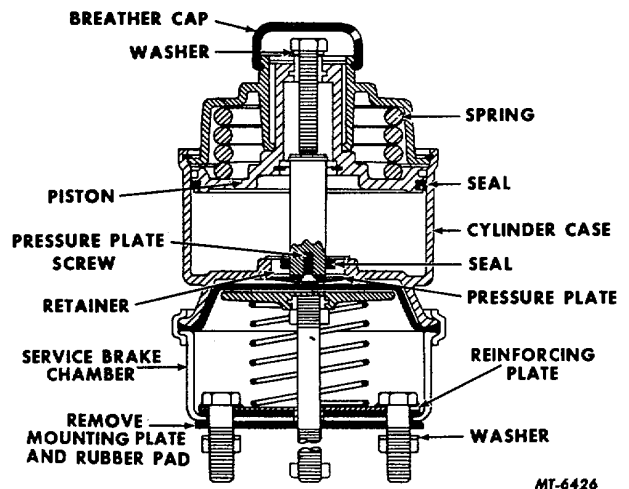

Fig. 20 Early Model Parking Spring Brake Unit Having Mounting Plate and Rubber Pad
1. Do not use parking spring brake chambers on chassis not already equipped with them unless the service brake chambers are also changed to the type having reinforcing plate inside the service brake chamber (Fig. 20). Standard air chambers do not provide sufficient strength in mounting stud area to withstand added weight and load imposed by the spring brake unit.
2. When replacing spring brake chamber assemblies on early parking spring brake assemblies, always remove service brake chamber from mounting bracket. Also, remove mounting plate and rubber insulator pad (Fig. 20) from bottom exterior of service brake chamber. This will enable you to check service brake chambers for damage or cracks—particularly in mounting bolt areas. Replace with new reinforced brake chambers if damaged.